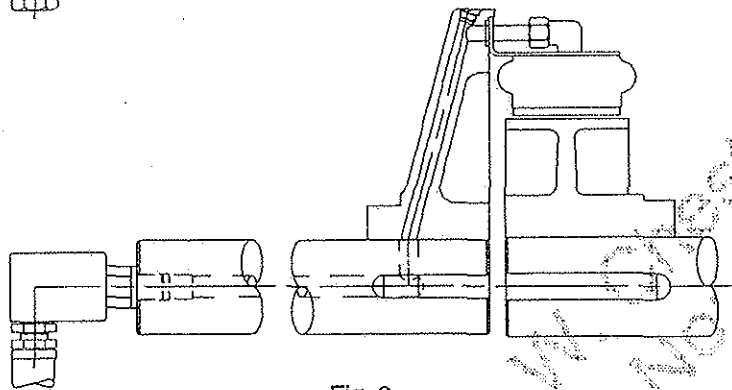

Fig. 3
2.1.2 Close-mounted arrangements may be used when shaft-to-shaft clearance is limited, as illustrated in figure 3.